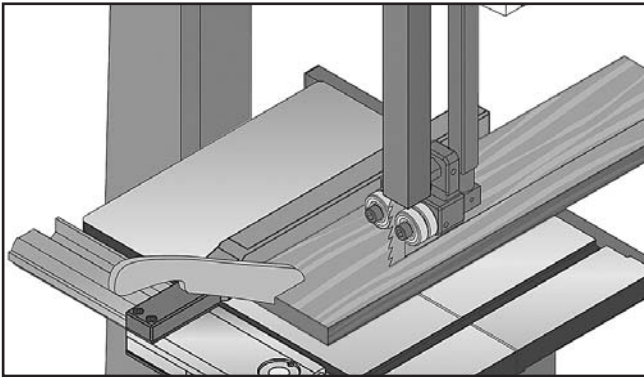

Figure 52. Example of typical ripping operation with a push stick.
3. After all safety precautions have been met, turn the bandsaw **ON**. Slowly feed the workpiece into the blade and continue with the cut until the blade is completely through the workpiece. **Figure 52** shows a typical ripping operation. **Note:** *If you are cutting narrow pieces, use a push stick to protect your fingers.*